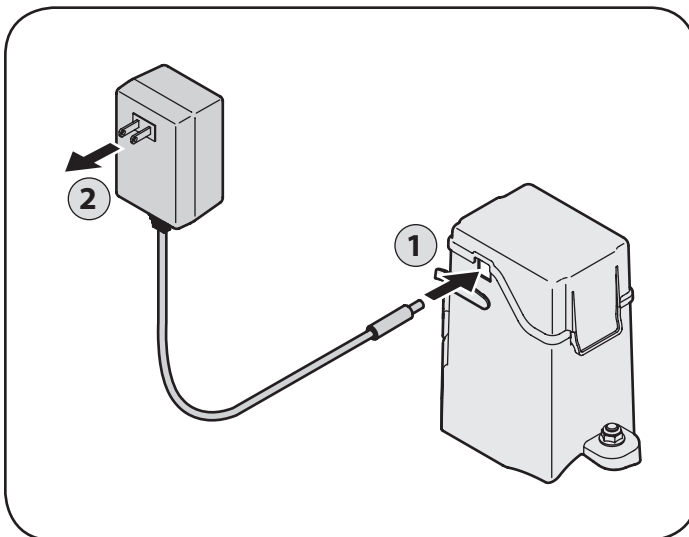

Figure 19
1. Unhinge the cover seal and plug the battery charger into the port on the side of the battery housing. See Figure 19.